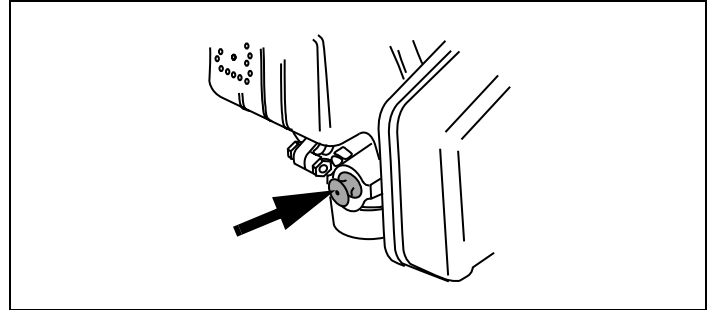

Figure 18. Engine Primer Bulb
3. When starting a cold engine, push primer bulb firmly with your thumb 3 times, allowing primer bulb to return completely to original position between pushes. See Figure 18.